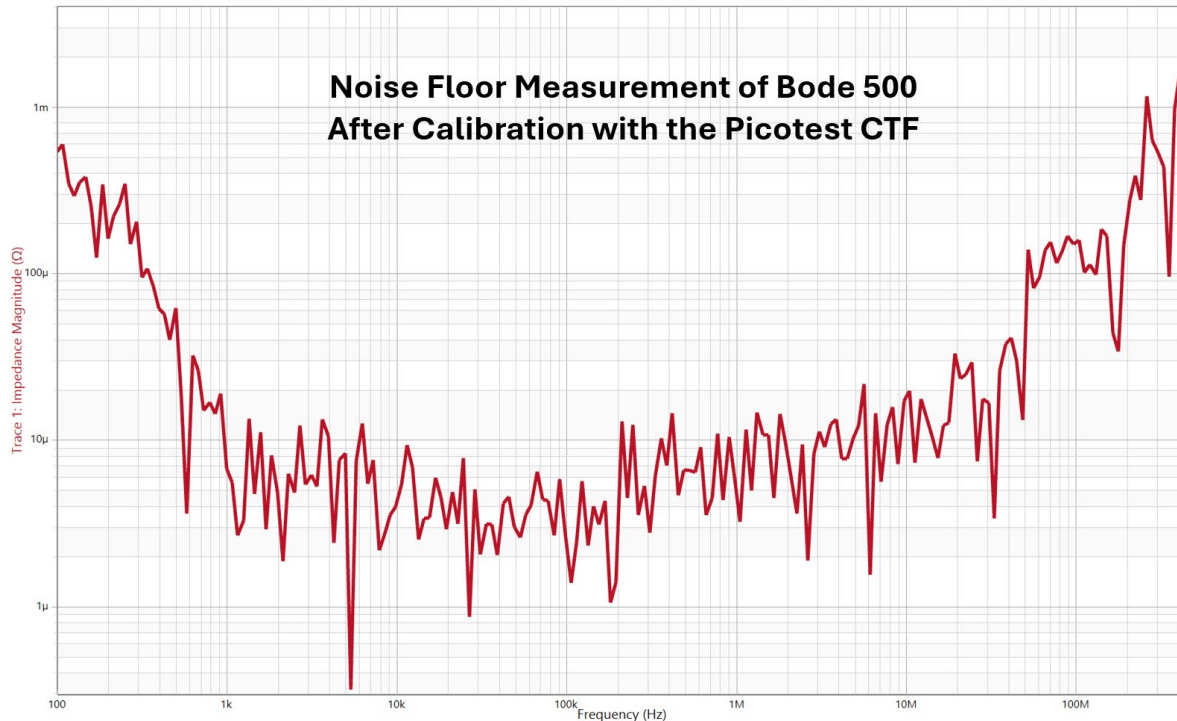

**Figure 4: Completed Calibration in the Bode Analyzer Suite**
**Step 7:** Confirm that all calibration steps were completed, as shown in Figure 4.